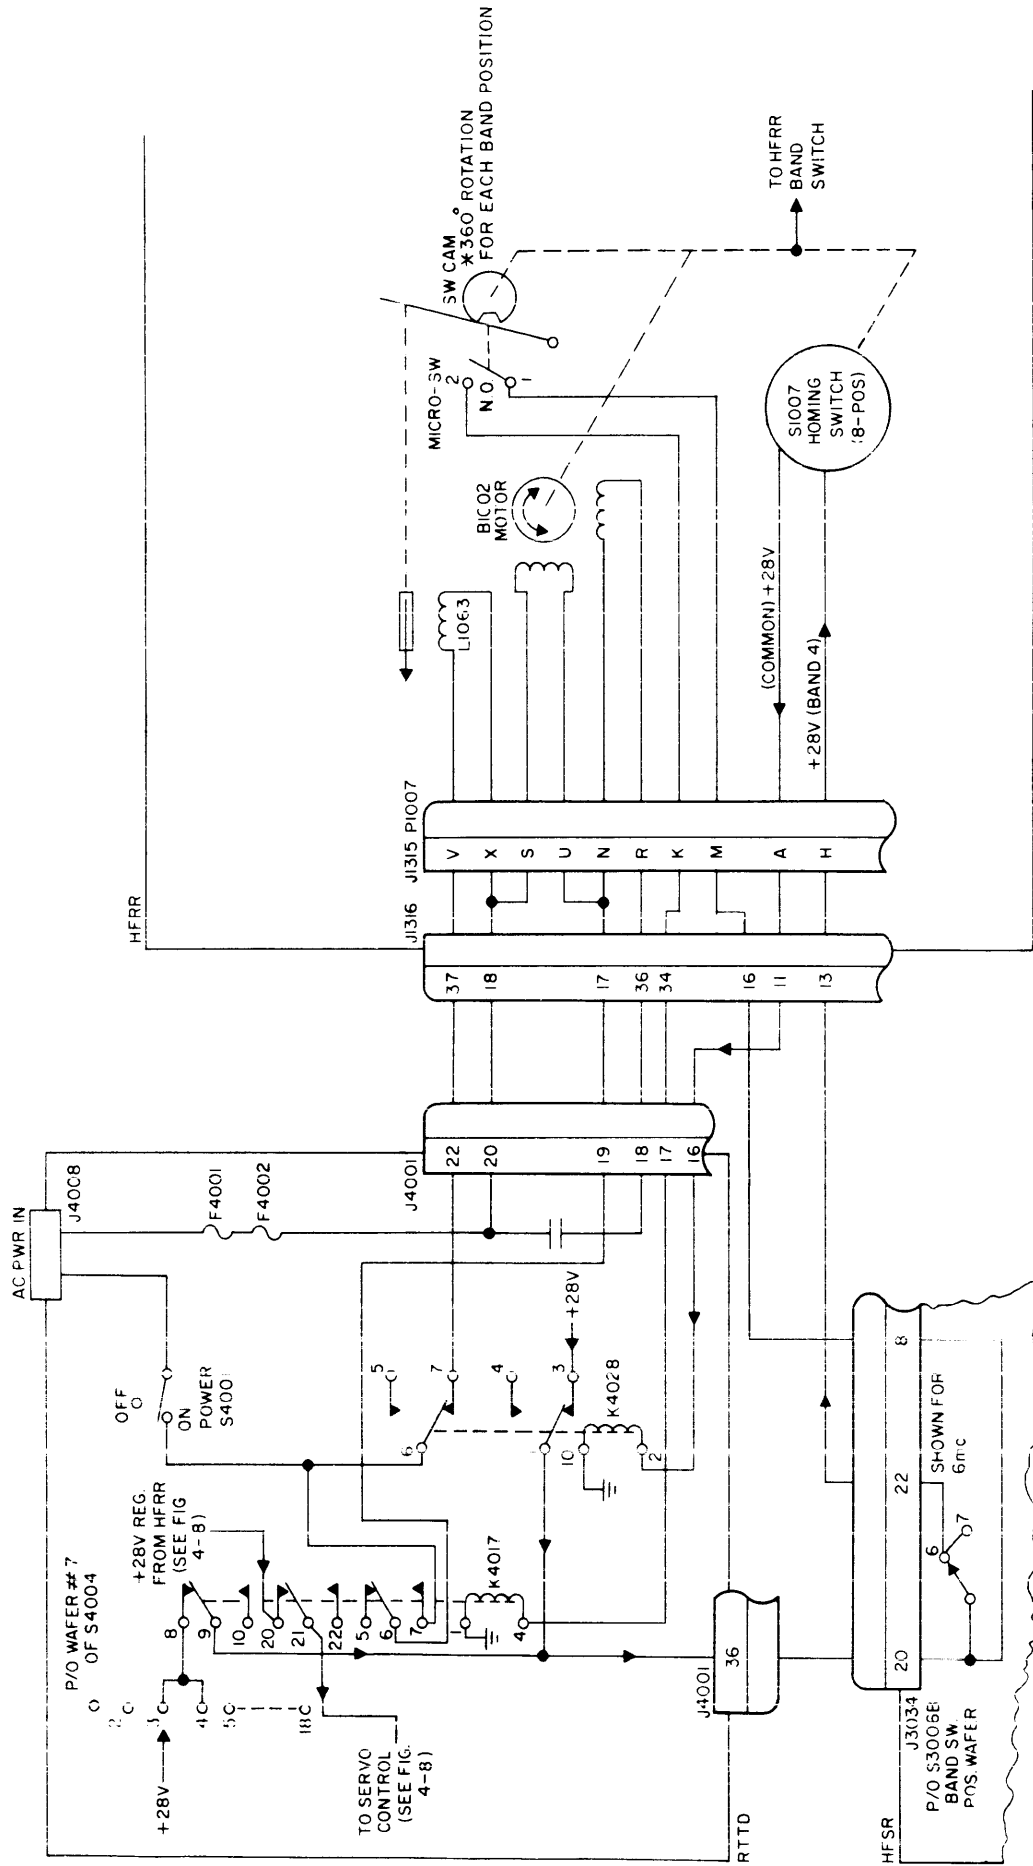

Figure 4-9. Energization of Band Switch Motor, Simplified Schematic.
**(2) ENERGIZING BAND SWITCH MOTOR OF HFRR** (Refer to Figure 4-9). - As the wiper of Master Decoder switch S4004 in Receiver Decoder RTTD